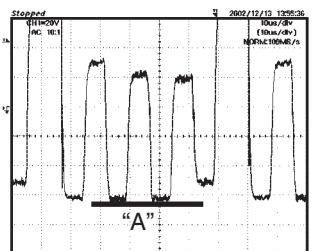

Fig. 2-2
5. Press the VOL. UP/DOWN button on the remote control until the section "A" becomes a straight line **(Refer to Fig. 2-2)**.